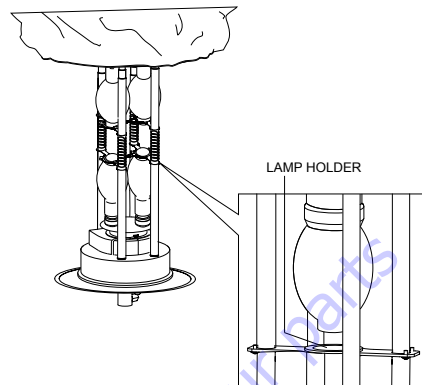

Figure 17. Lamp Holder
3. Press the tabs on the lamp holder and push up lamp holder to release it from lamp. Do the same to the lower lamp if necessary. See Figure 17.